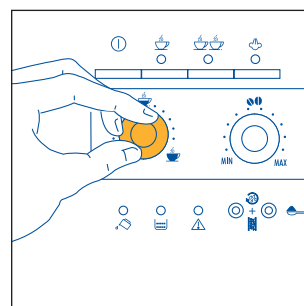

Fig.8
- 3) Adjust the left-hand knob (Fig. 8) to set the quantity of coffee required. Turning the knob clockwise makes a longer coffee. When using the machine for the first time, the correct position of the knob can be found by trial and error.